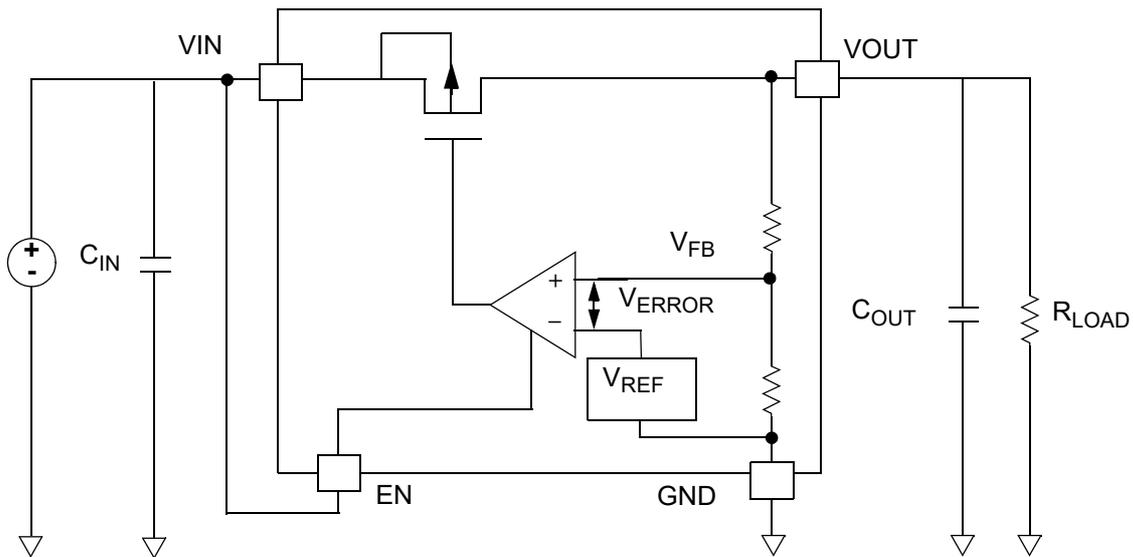

Figure 35. Simple PMOS LDO Regulator Block Diagram
Like the majority of LDOs with a PMOS pass transistor, the RAA21440x family of DC output voltage (V_{OUT}) regulation can be modeled with a voltage reference (V_{REF}), PMOS pass-transistor, error amplifier, and feedback (FB) resistors as shown in Figure 35.